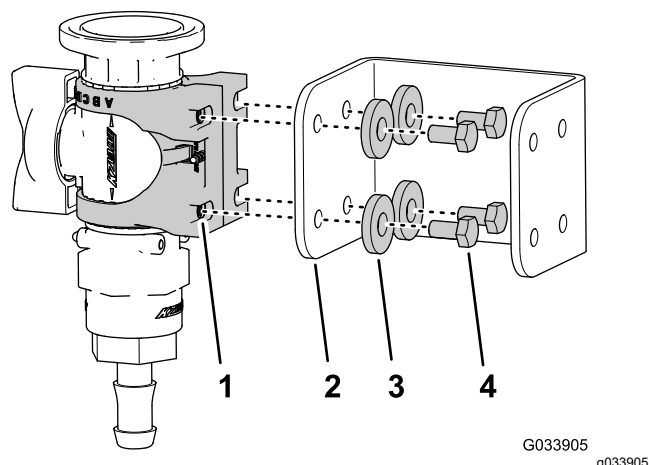

Figure 28
3. Assemble the valve mount to the control-valve bracket (Figure 28) with the 4 bolts (6 x 12 mm) and 4 flat washers; torque the bolts to 10 to 12 N·m (86 to 106 in-lb).